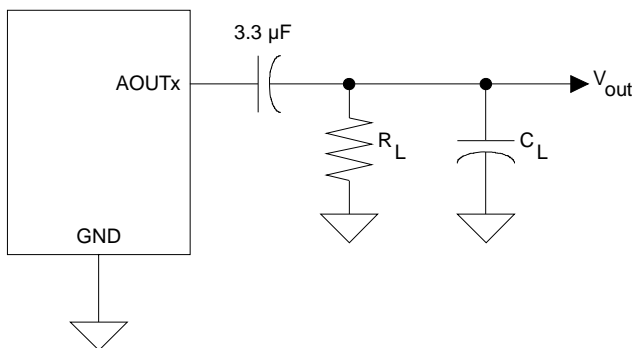

Figure 1. Equivalent Analog Output Load
- See Figures 1 and 2 on page 16. R_L and C_L reflect the minimum resistance and maximum capacitance allowed in order to maintain stability in the internal op-amp. C_L affects the dominant pole of the internal output amp; increasing C_L beyond 100 pF can cause the internal op-amp to become unstable.